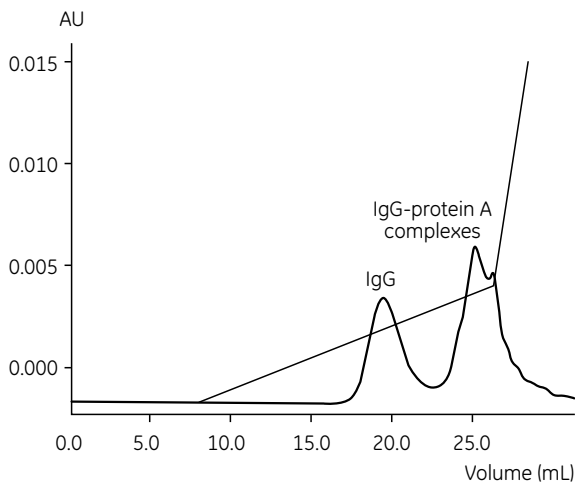

Fig 6. Removal of IgG-protein A complex from mouse IgG_{2a} by anion exchange chromatography on HiTrap Q HP. Recombinant protein A was spiked into IgG_{2a}.
- **Anion exchange chromatography** can also be used to reduce leached protein A contamination. It is best suited to antibodies that are weakly retained on anion exchangers. Because of the strong anion exchange binding characteristics of protein A, protein A-IgG complexes tend to be more strongly retained than noncomplex antibodies (Figure 6). These complexes do not generally form separate peaks, but often exhibit a trailing shoulder. To determine the ability of anion exchange chromatography to remove complex protein A, equilibrate the column to 20 mM Tris-HCl, pH 8.5, apply sample and elute in a linear gradient ending at 0.25 M NaCl (20 mM Tris-HCl, pH 8.5). Collect fractions across the antibody peak and screen for protein A.